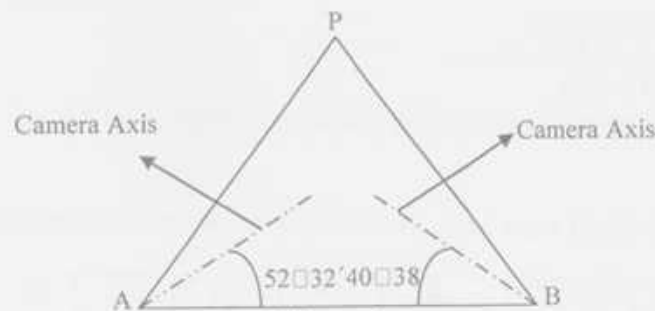

Figure 1
1. (a) In a terrestrial photogrammetric survey, photo-theodolite was set up at A and B of a baseline which measured 120 meters. The print from A shows a point P 4.56 c.m. to the left of the vertical wire & 2.50 c.m. above the horizontal wire, that from B shows that the same point 5.80 c.m. to the vertical wire. The focal length of the camera is 12.5 c.m. The collimation level of A is 105 m. Calculate the distance and R.L. of P. (See Figure 1) (6 $\frac{2}{3}$)